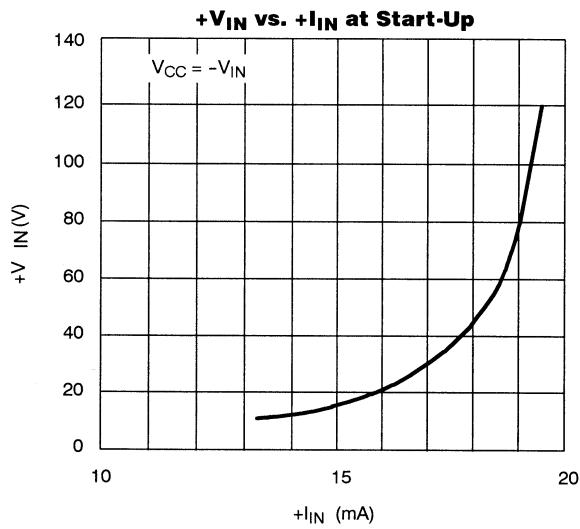

FIGURE 4.
**Note:** During start-up or when VCC drops below 9.4-V the start-up circuit is capable of sourcing up to 20 mA. This may lead to a high level of power dissipation in the IC (for a 48-V input, approximately 1 W). Excessive start-up time caused by external loading of the VCC supply can result in device damage. Figure 4 gives the typical pre-regulator current at start-up as a function of input voltage.